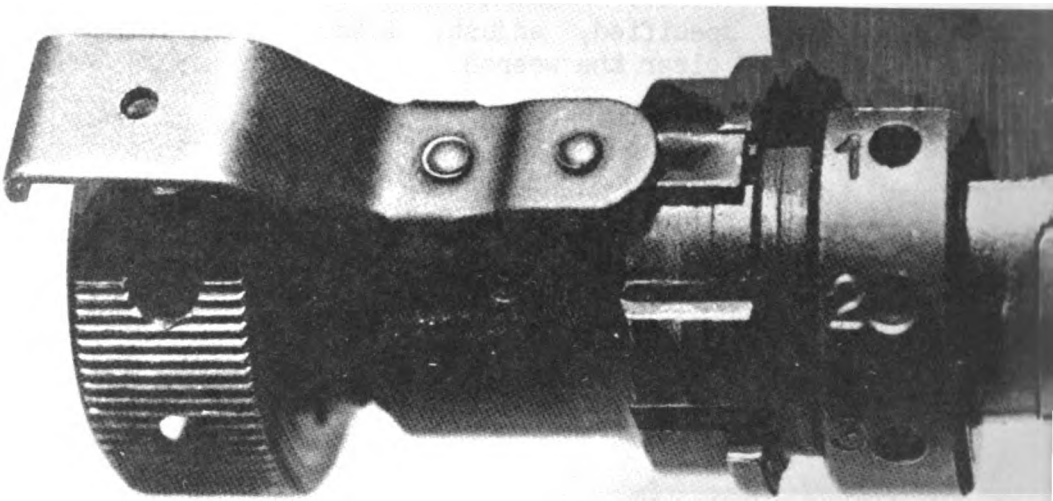

Figure 2
- (2) Adjust gas regulator under left side of sleeve around barrel. (See fig. 2.)